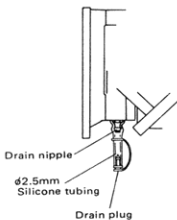

Fig. 18
- At the conclusion of the flying session, drain out the excess oil in the crankcase by removing the drain plug. While running the engine, the drain plug should always be fitted. (See Photo 4 and Fig. 18.)